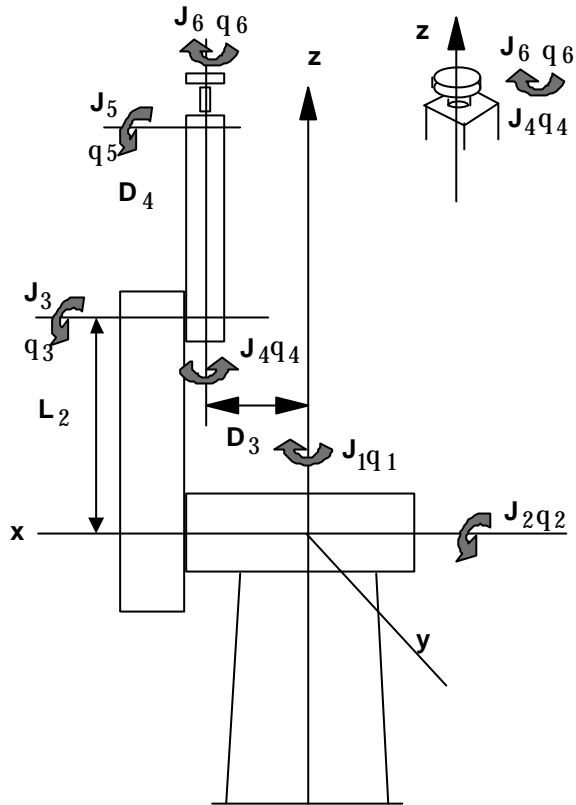

Figure Q1
- (d) Figure Q1 shows the PUMA robot in its home position. Determine the A matrix for joint J3. [8 marks]